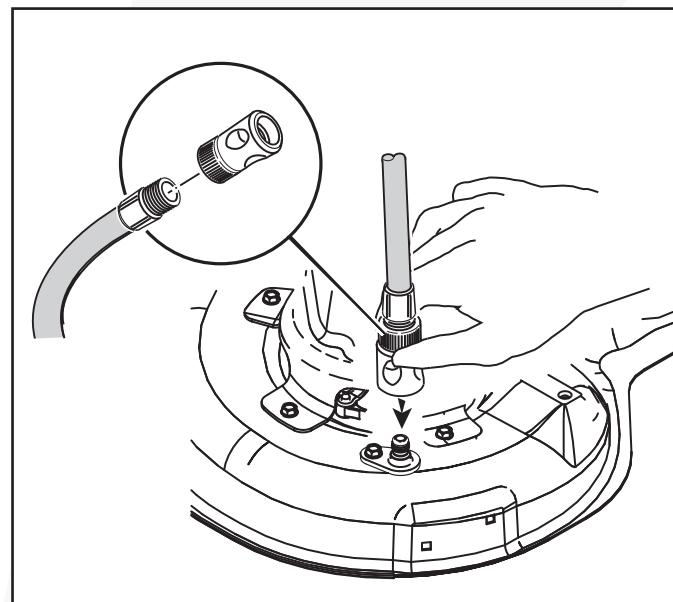

Fig. 25
6. Engage the Power Take-Off (PTO) to activate the mower blades. The rotation of the blades and the water will clean the bottom of the mower deck. (Fig. 25)